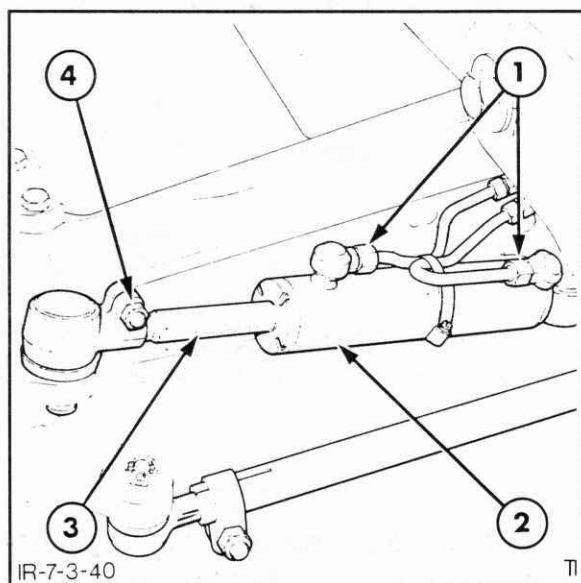

Figure 7-103
3. Disconnect the hydraulic steering connections to the cylinder, Figure 7-103, and cap the open ends of the connections. Remove the hose clip securing the tubes to the cylinder.